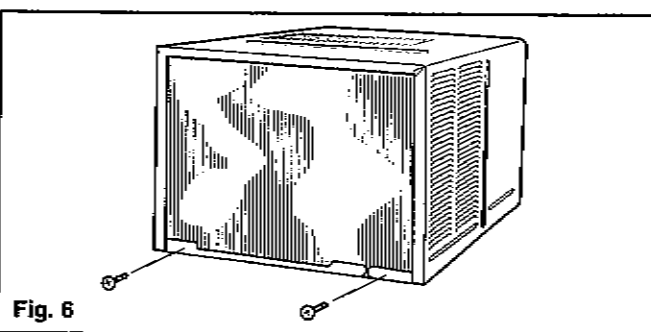

Fig. 6
- Remove the two retaining screws located at the back of the cabinet securing the slide-out chassis to the cabinet. Fig. 6